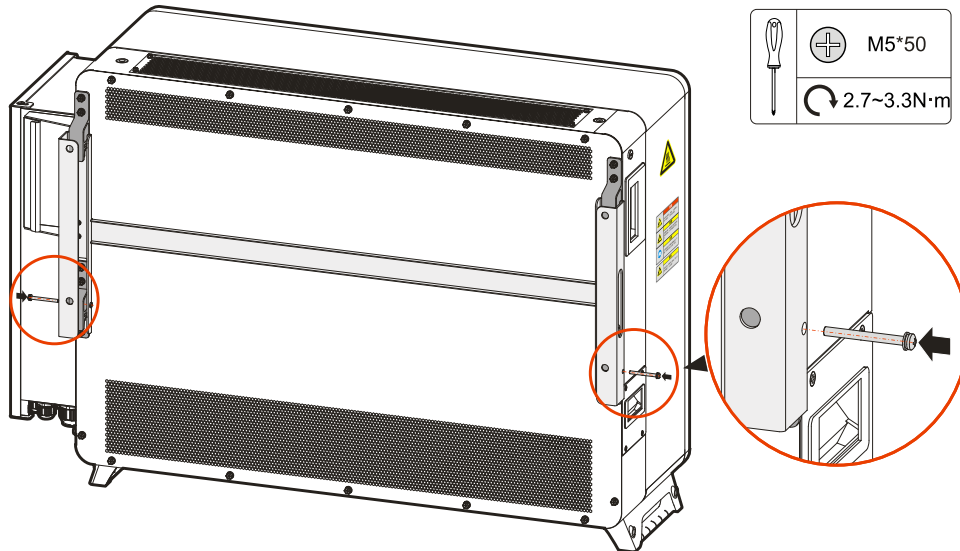

Figure3-17 Inverter fixed
- Step 6 Use the screws M5*50 in the accessories to fix both sides of the inverter on the wall bracket, as shown in Figure3-17.